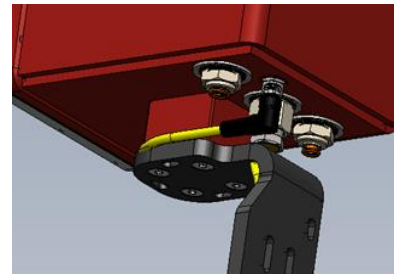

Figure C-3 – Handle
Select the preferred Handle for the application, attach to the bottom of the controller using the (4) provided M5 screws and specified Loctite. Figure C-3